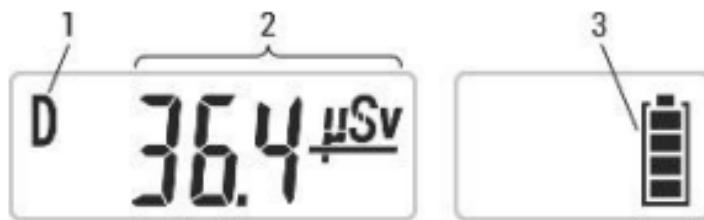

Figure 2.1 – LCD of the dosimeter
2.3.3.6.2 The dosimeter's LCD shows the following information (Figure 2.1):